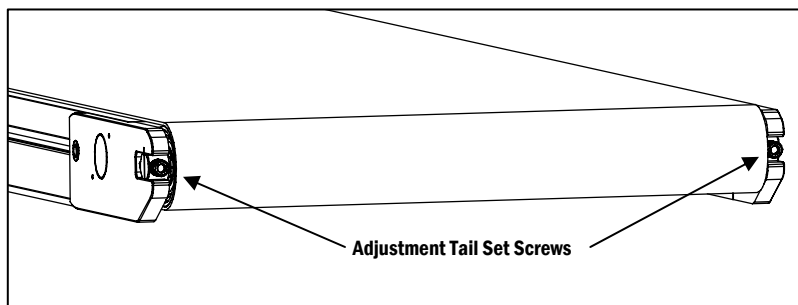

Figure 2
b. Position the conveyor for operation, taking care to note that when other equipment is nearby, access is needed for the tail pulley's adjustment set screws (Figure 2). This is important when tensioning or tracking the belt from the tail pulley end.